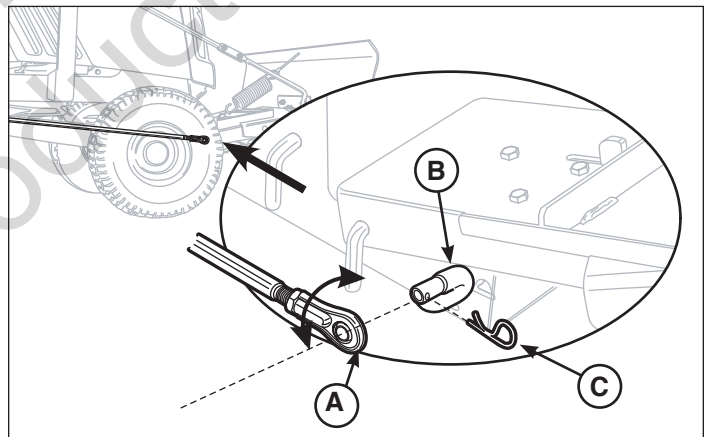

Figure 14
6. Attach the lower ball joint (A, Figure 14) of lift rod assembly to the bell crank (S) and secure with the hair pin (C).